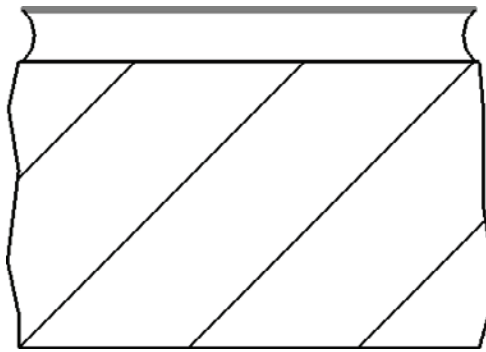

FIGURE 12.35 Draw the textured face while you're in the Edit mode for the filled region. Draw the arcs for the mortar joint using lines.
12. Draw the jagged lines on both sides, as shown in Figure 12.35.
17. Draw an arc on both sides of the brick, as shown in Figure 12.35.